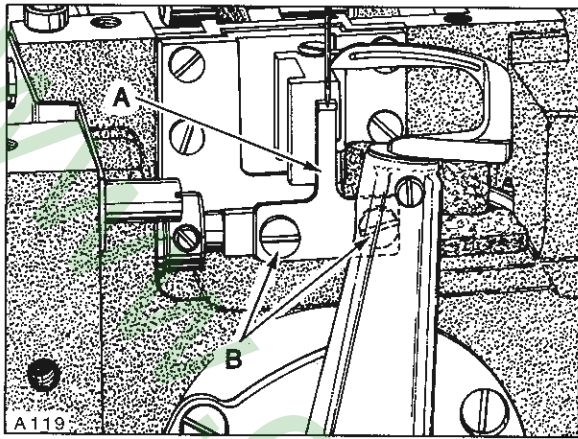
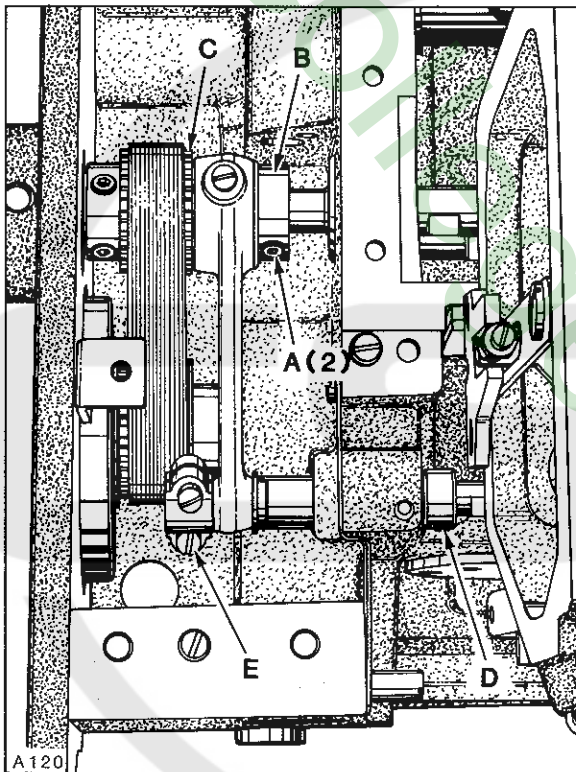

Fig. 10
Fig. 11
Rotate handwheel in operating direction to position looper point at the RIGHT hand side of needle. At this time the needle guard (A, Fig. 10) should be at its EXTREME END of FORWARD travel. Adjustment can be made by loosening two screws (A, Fig. 11) and turn needle guard eccentric (B) slightly as required until this condition exists. Ensure .002 inch (.051mm) clearance between needle guard eccentric (B) and looper drive sprocket (C) while tightening screws (A) securely. Needle guard should also be positioned (left to right) so the needle centers in the width of the guarding surface. Adjustment can be made by loosening collar screw (D) and pivot link screw (E) permitting guarding surface to be centered to needle. Position collar against needle guard shaft bushing and tighten screw (D) securely. Rotate guard as required to obtain .002-.004 inch (.051-.102mm) clearance between guarding surface and needle. Take up thrust by exerting pressure against collar to the left and pivot link to the right and tighten pivot link screw (E) securely. Guard should be set as low as possible yet have its vertical face approach approximately 3/64 inch (1.2mm) of needle point. Adjustment can be made by loosening two screws (B, Fig. 10) to position guard to proper height and retighten screws (B) securely being sure to keep the width of its guarding surface centered to needle.